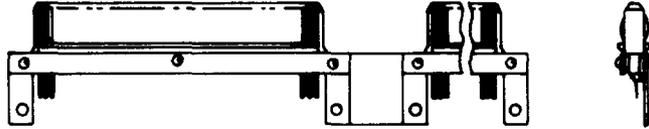

Fig. 12—970A Connector
2.05 970A: The 970A connector (Fig. 12) consists of two 946C connectors mounted on a common bracket above each other. The connector is designed to mate with the 971A connector and is used on the No. 4 Electronic Switching System (ESS).